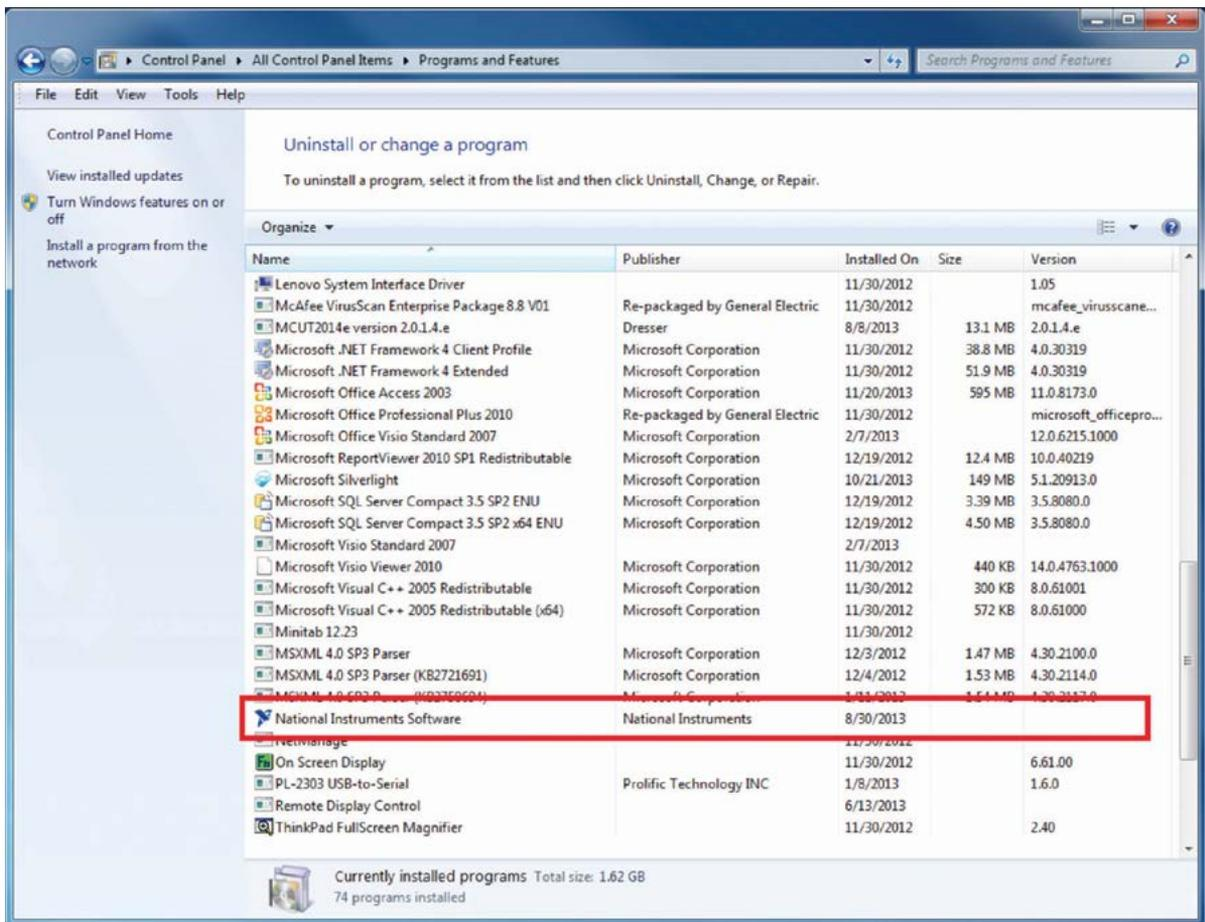

Figure 27: National Instruments Software Program
6. Upon completion, confirm that the Model 5 Transfer Prover software has been successfully deleted. If the Model 5 Transfer Prover is no longer present in the “Programs and Features” window, search for “National Instruments Software” as shown in **Figure 27**.